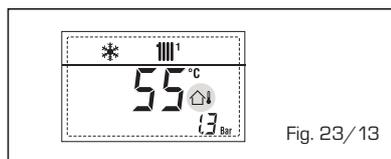

Fig. 23/13
- **INTERVENTION THERMOSTAT SECURITE PREMIERE ZONE MIXTE "ALL 20"** (fig. 23/14)